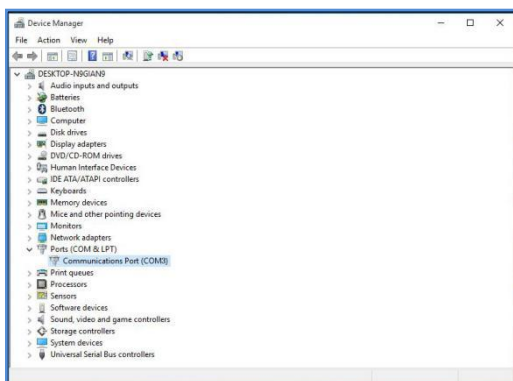

Figure 3-9-11
(2) Connect
- Step 1: Right-click Computer → Properties → Device Manager → Observe the serial port assigned by the computer. The computer serial port assignment interface is shown as Figure 3-9-11.